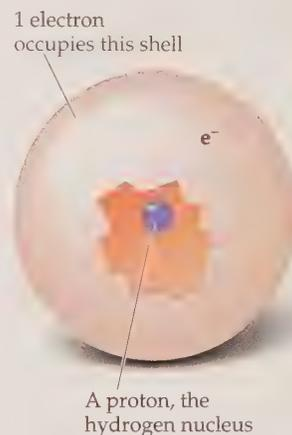

Figure 2.9 The structure of the hydrogen atom.
The overwhelming majority of all hydrogen atoms consist of just one proton and one electron. The proton forms the nucleus of the atom, and the electron occupies a spherical shell or envelope surrounding the nucleus (Fig. 2.9). Since the single negative charge of hydrogen's lone electron exactly balances the single positive charge of its single proton, the hydrogen atom itself has no net electrical charge. This illustrates a general rule: *In all atoms of all elements, the number of electrons surrounding the nucleus exactly equals the number of protons within the nucleus.* All atoms of all elements, then, are electrically neutral.
shell containing a single electron as shown in Figure 2.9. If we wish to designate not only an atom of a particular element but its mass number and atomic number as well, we write the mass number (A) at the upper left of the atomic symbol and the atomic number (Z) at the lower left. For a hydrogen atom with a mass number of 1 and atomic number of 1, we write